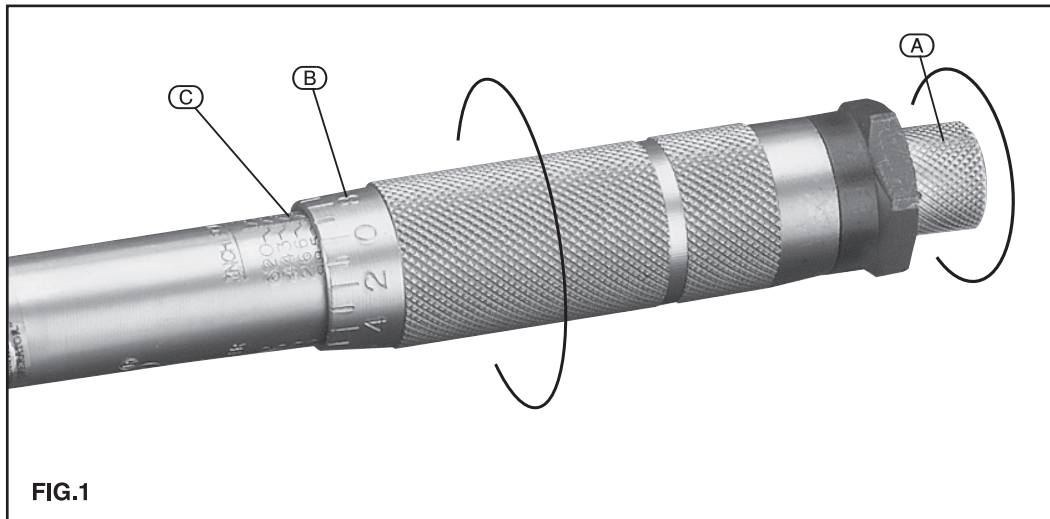

FIG.1
8.1 OPERATION INSTRUCTIONS - FIG. 1
1. Unlock handle (Fig.1) (Page 10).
4. Lock handle (Fig.1) (Page 10).